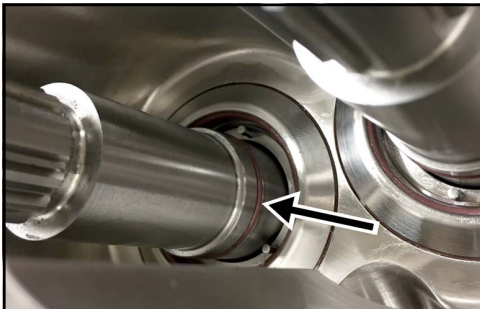

Figure 97 - Install shaft O-ring
3. Lubricate the shaft O-ring. Slide the shaft O-ring over the shoulder in the shaft, and install it into the O-ring groove, as shown in Figure 97. Repeat for the second shaft.